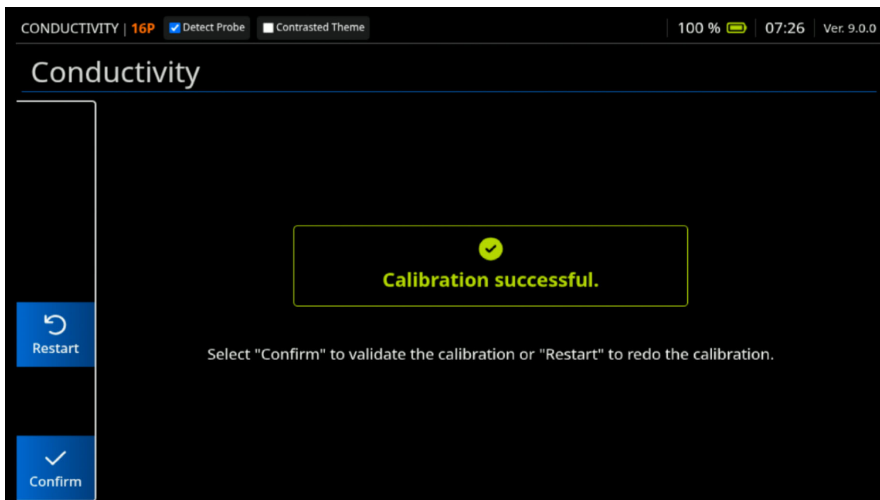

Figure 6-6 Calibration Complete
- When calibration is complete, press **Confirm** to accept or **Restart** to redo the calibration (See Figure 6-6 on page 210).